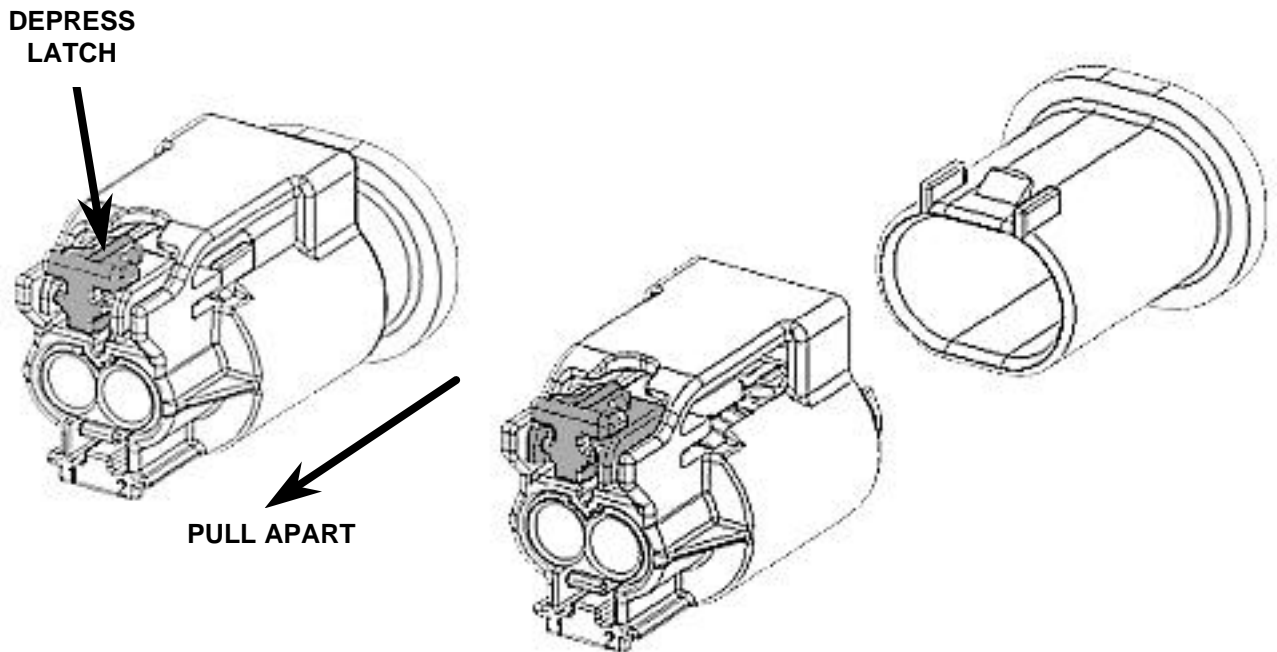

Figure 9
b) Depress the latch and pull the connector; see Figure 9 below :